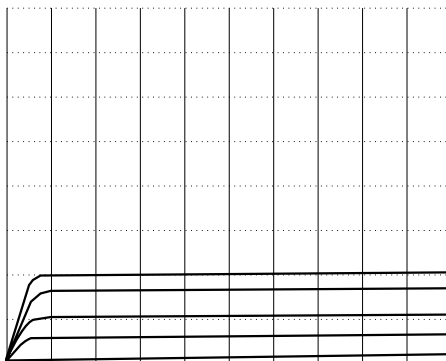

Figure 1
As shown in Figure 1, the upper edge of the grid represents the maximum value of the test current (I_c , I_D) according to the selected range ($I_{max} = 200mA / 20mA / 2mA$).
5. Press the DUT switch **(14)**. Five curves (see Figure 1 or 2) now will be visible on the screen.